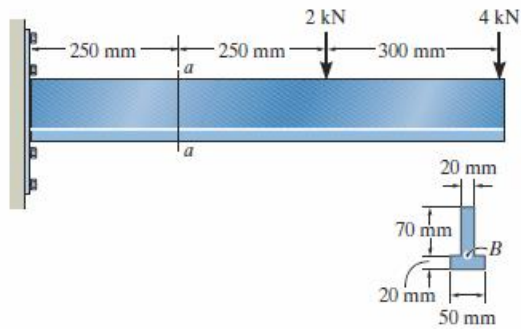

Fig. 4
4. Determine the shear stress at point B on the web of the cantilevered strut at section a–a. Determine the maximum shear stress acting at section a–a of the cantilevered strut. (Fig. 4)